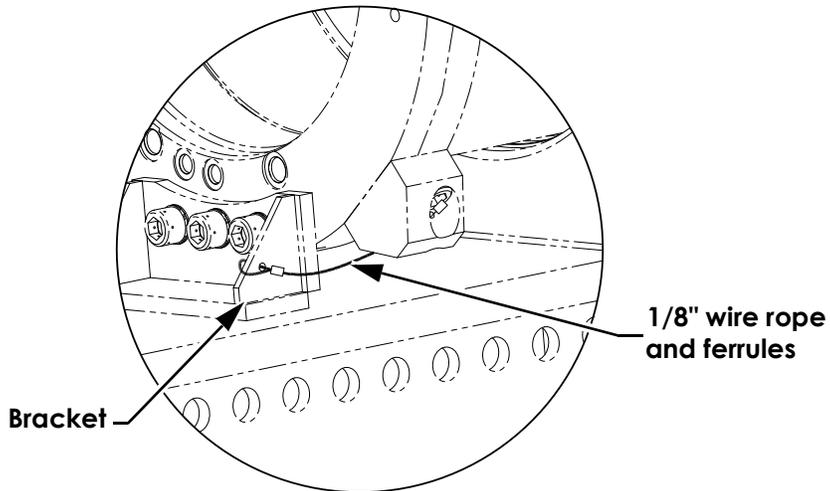

Figure 3: Pressure Pad securement
- To secure the pressure pad, use 1/8" wire rope and ferrules. Run a wire rope through hole in pressure pad and tie-off to the bracket (between the outer sleeve and back-up wrench). Keep the slack as minimum as possible (no more than one inch). Refer to Figure 3.